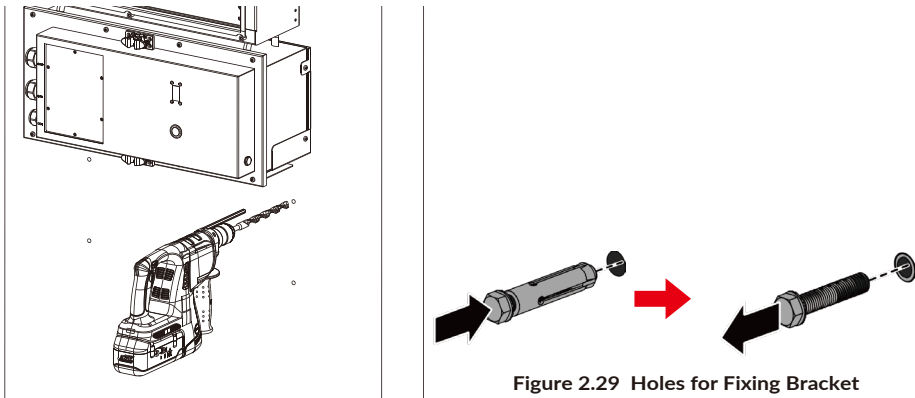

Figure 2.29 Holes for Fixing Bracket
Step 12 Drill holes at the position using a percussion drill (M12 drill, depth of holes: 70mm). After drilling, put 4 expansion bolts into the hole and take out the expansion screws as shown in Figure 2.29